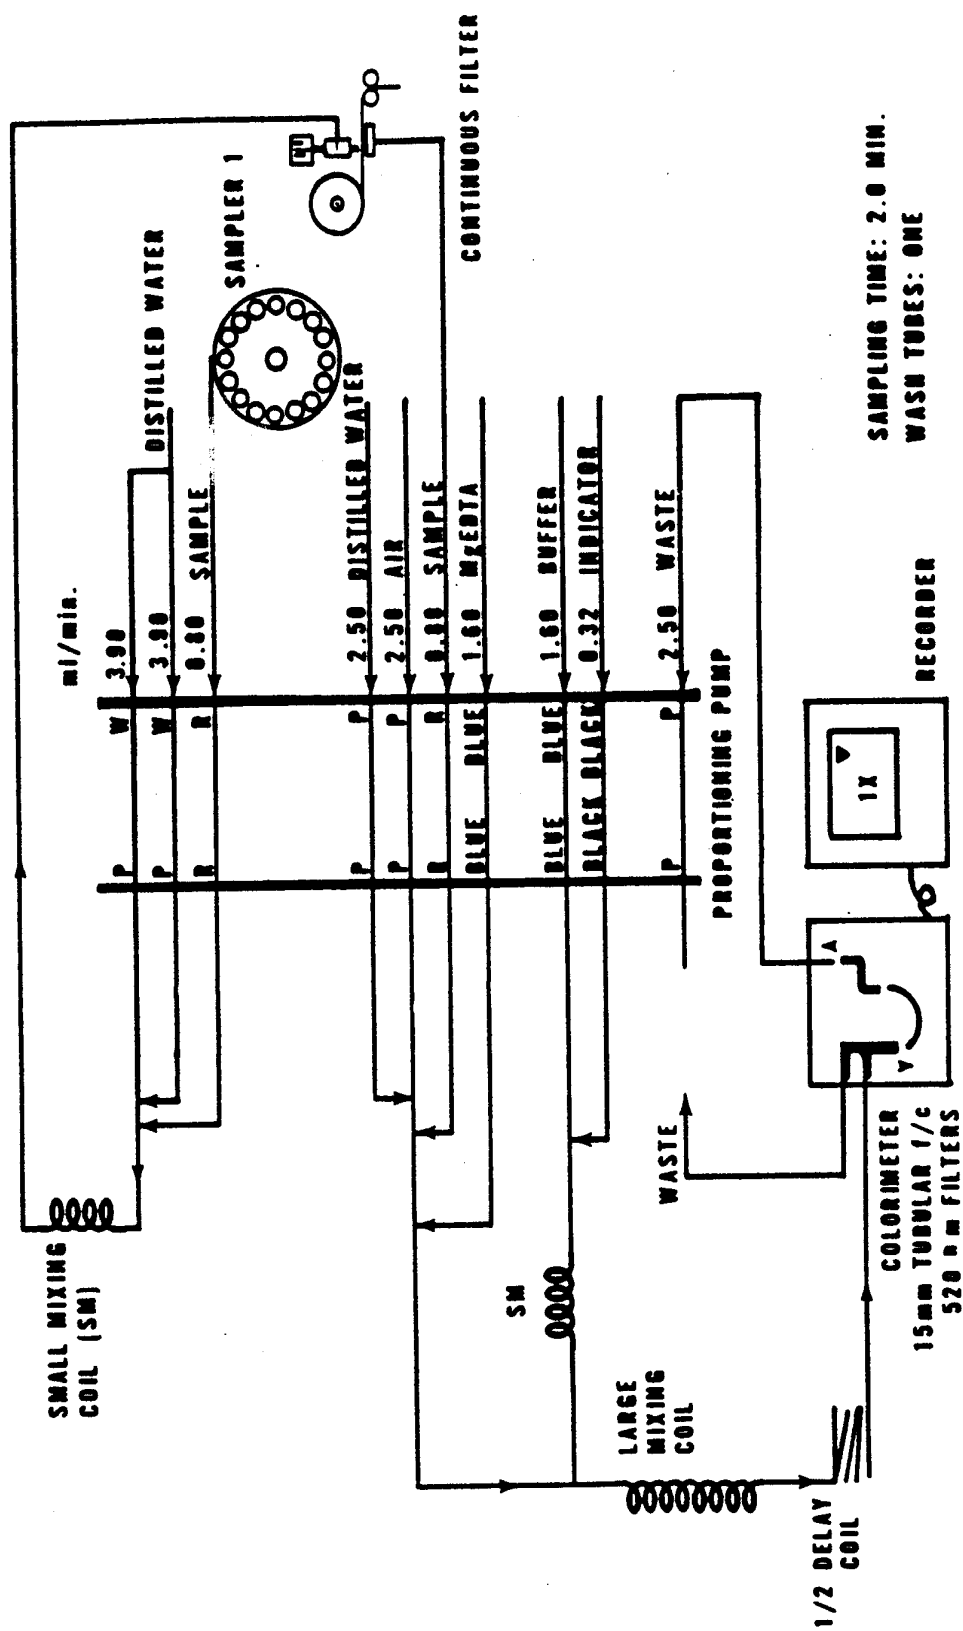

FIGURE 1. HARDNESS MANIFOLD AA-I
- 7.3 Set up manifold as shown in Figure 1.